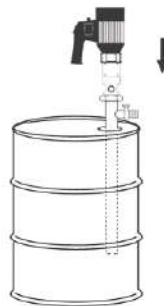

Figure2
- 1.Once the pump is fully assembled and all connections are fastened,insert the pump into the drum or tank(see Figure 2).